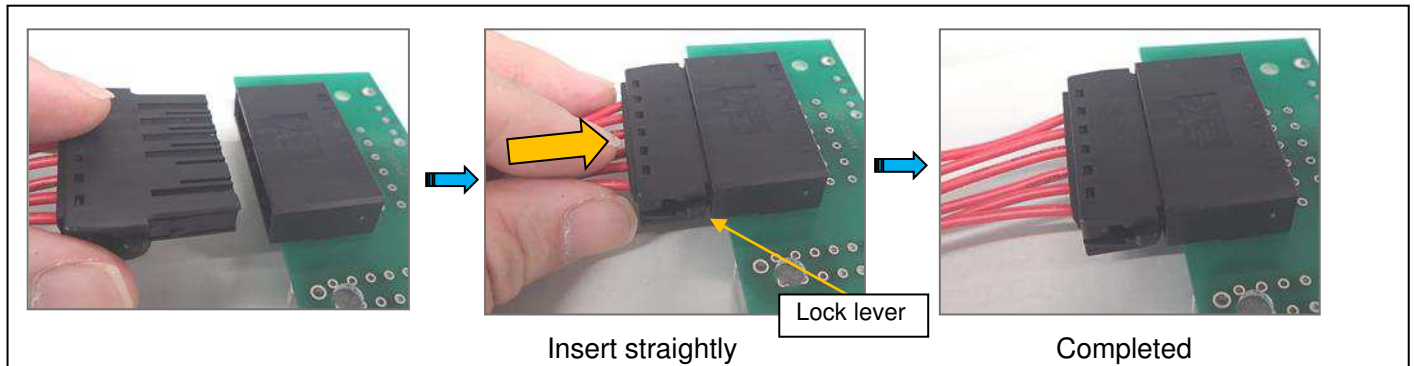

Fig.9 Mating
5. Mating Receptacle Assembly and Header Assembly (Fig.9)